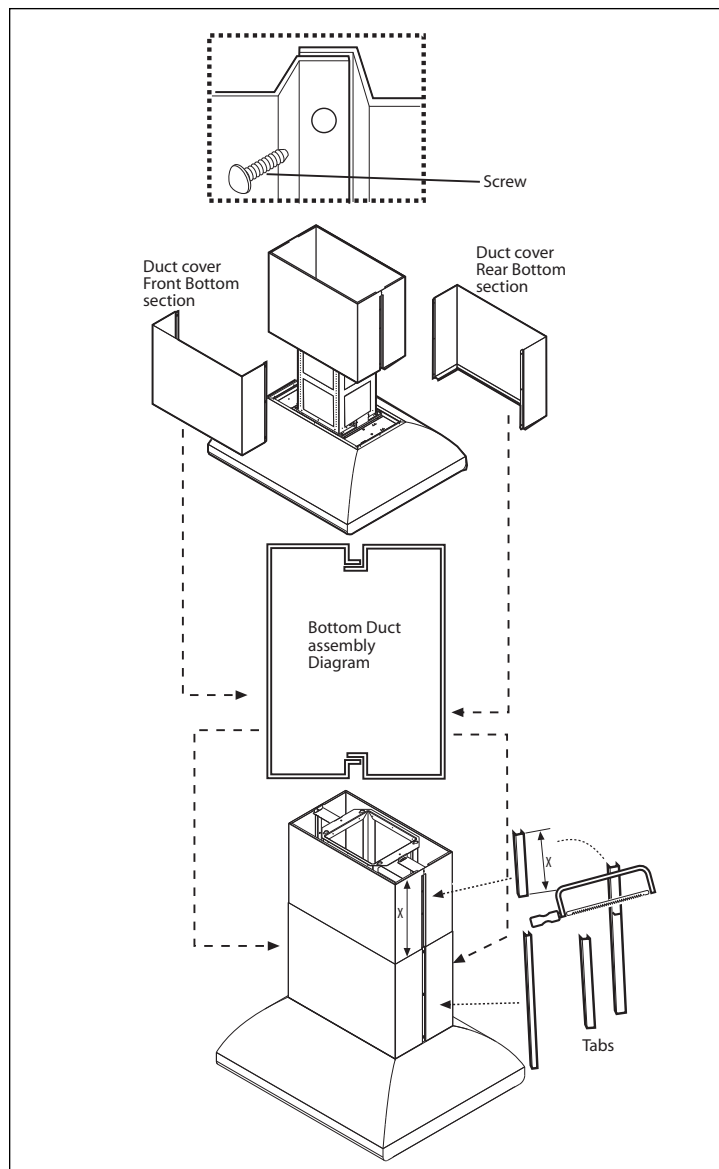

FIG. 17
5. Join the two bottom sections of the duct cover which covers the chimney structure using 6 screws, (3 each side, see Fig. 17 for the plan diagram for joining the two sections).